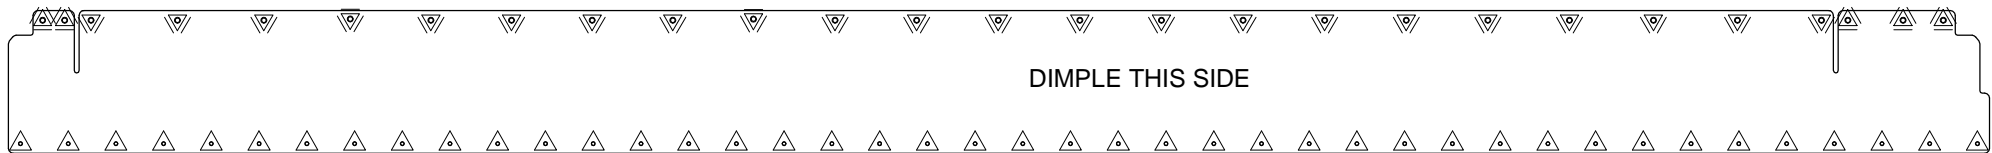

FIGURE 3: AILERON GAP FAIRING RIVET CALLOUTS
Step 2: Dimple all .098 [2.5 mm] holes in the W-00011-L Aileron Gap Fairing. See Figure 3
Rivet the gap fairings to the Rear Spar Assembly and the top skins as shown in Figure 3 and Figure 4.
Cleco the ADAHRS Mounting Zee to the W-00012A ADAHRS Mounting Plate as shown in Figure 3.